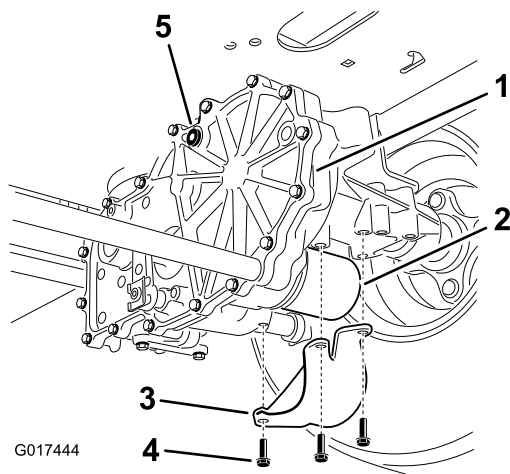

Figure 70
4. Locate the filter and guards on each transaxle-drive system (Figure 70).
5. Remove the 3 screws securing the filter guard and guard (Figure 70).